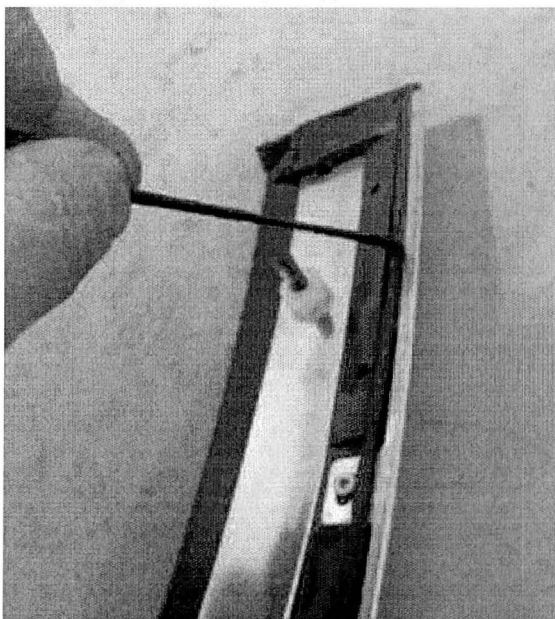

Figure 1
2. Remove the original seal and thoroughly clean the surface on which the new seals will be positioned (see Figure 1)